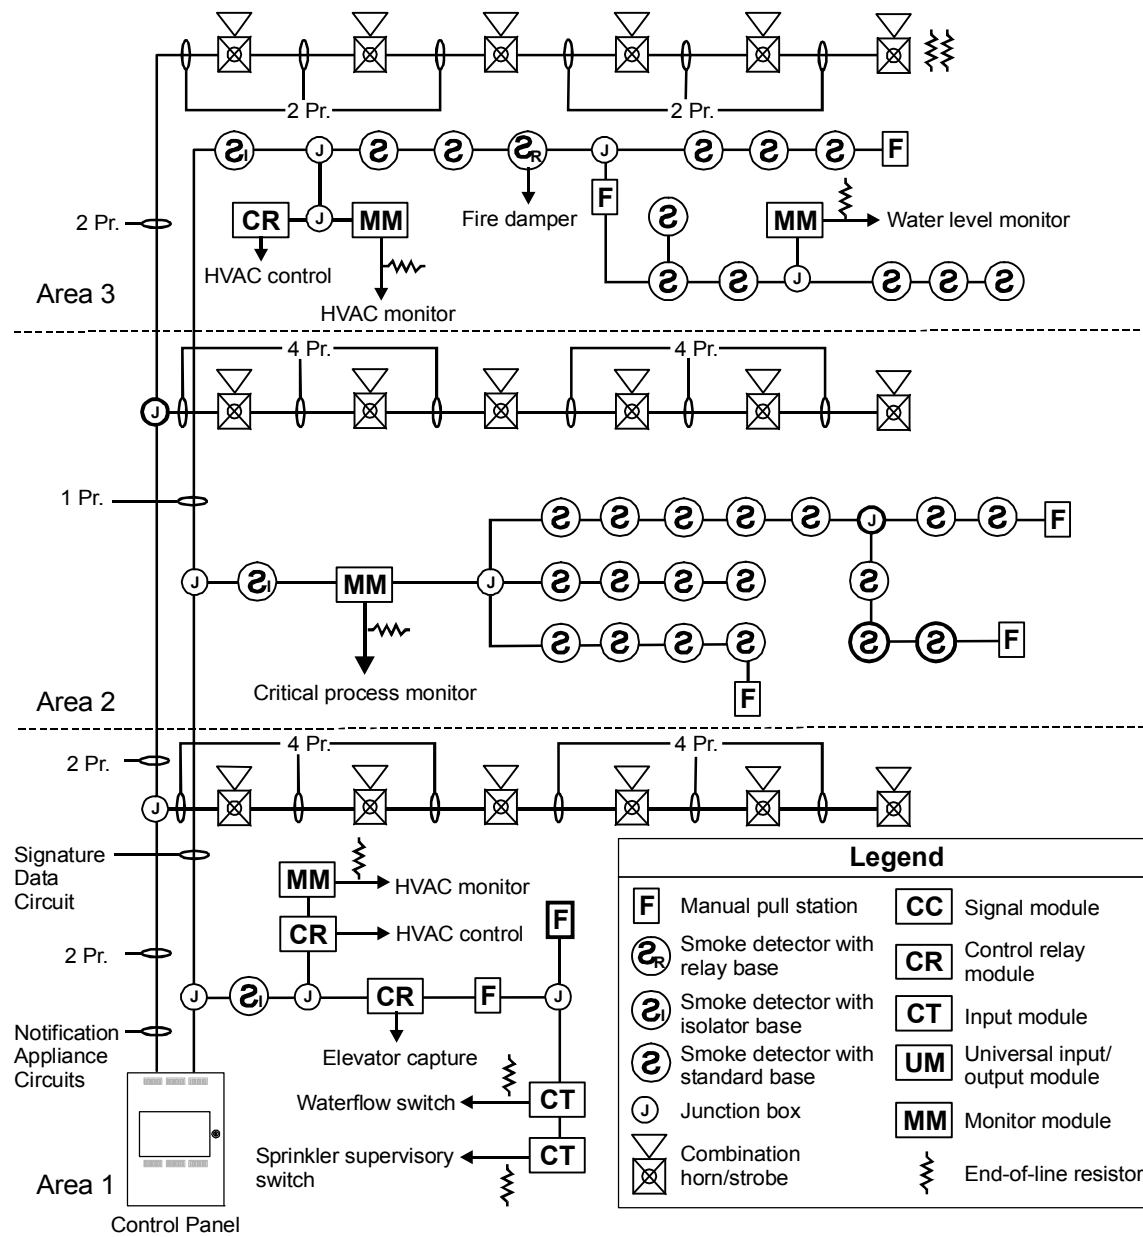

Figure 5: Typical Class B NAC wiring
- Class B (Figure 5)
- Figure 5: Typical Class B NAC wiring